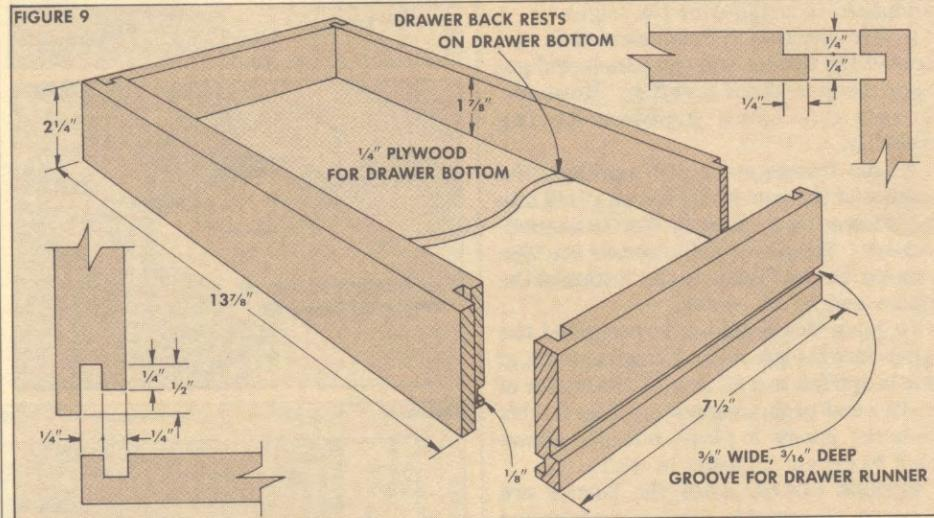

FIGURE 10
FINGER LIP. The last step is to mount the lid. I cut mortises in the back (G) and the lid for $7/8" \times 2"$ butt hinges, see Fig. 10. Before mounting the lid, I also routed a finger lip on the front edge, see Fig. 11.